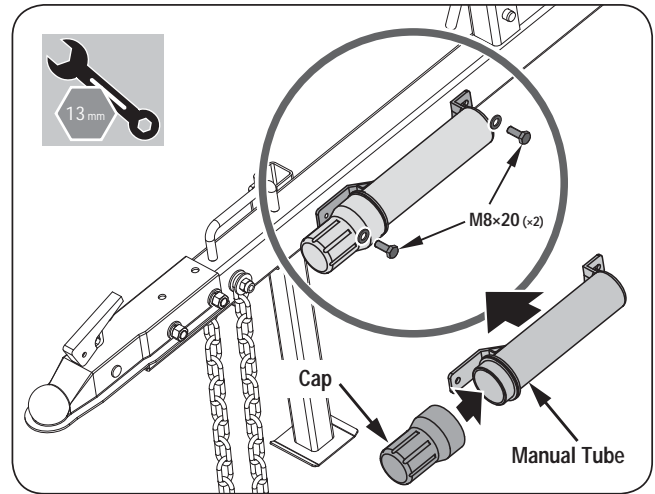

Figure 10
- Remove the cap from the manual tube. Align the holes in the manual tube with the holes in the tow bar. Insert and tighten bolts and washers. (See *Figure 10*.)